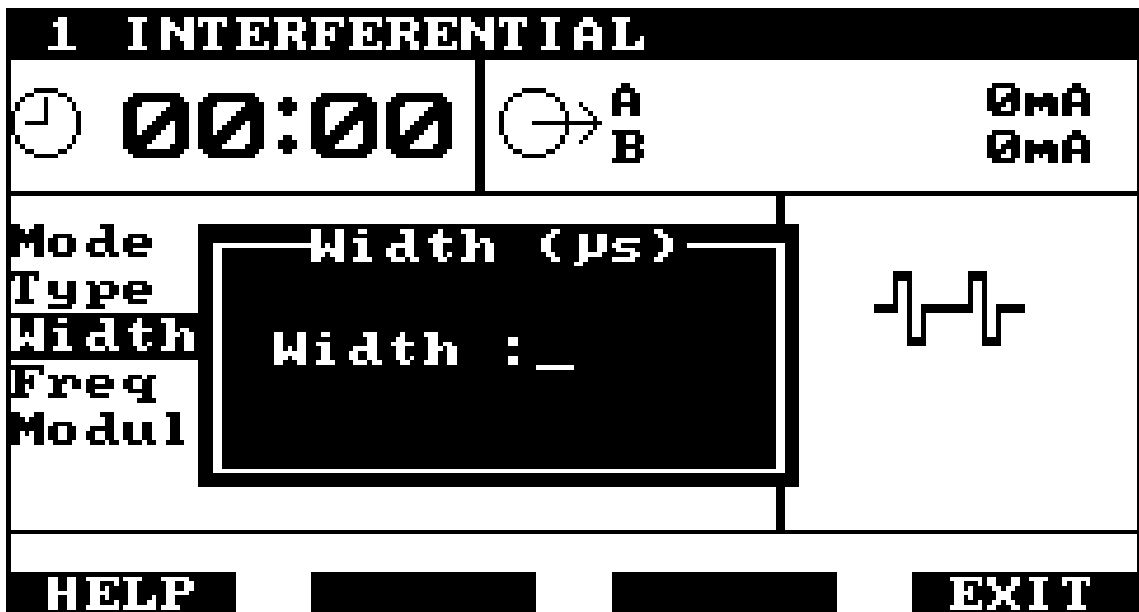

Figure 21 - Setting the TENS Pulse Width
14. Width (us): To set the TENS pulse width, first highlight the label Width using the up and down arrow keys and then press ENTER. A sub-window will be displayed for the pulse width (see figure 21). The screen cursor is positioned by the Width label. Enter the desired pulse width in microseconds using the numeric keypad, confirming the entry with the ENTER key. The left arrow key acts as a backspace incase the wrong numeric key is pressed. If an invalid width is entered (less than 50 or greater than 400), the system will give a short beep, clear the entry and wait for the user to enter another value.